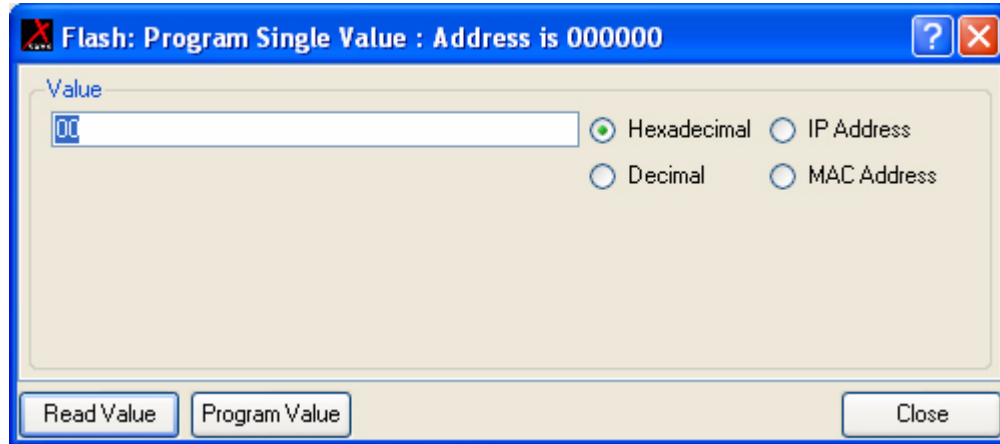

Figure 41. Program Single Value Window
The **Program Single Value** window (see Figure 41) is displayed.
3. In the **Program Single Value** window (see Figure 41), enter a value in the **Value** text box and select the format (Hexadecimal, Decimal, IP Address, or MAC Address) of entry for the value to be programmed.